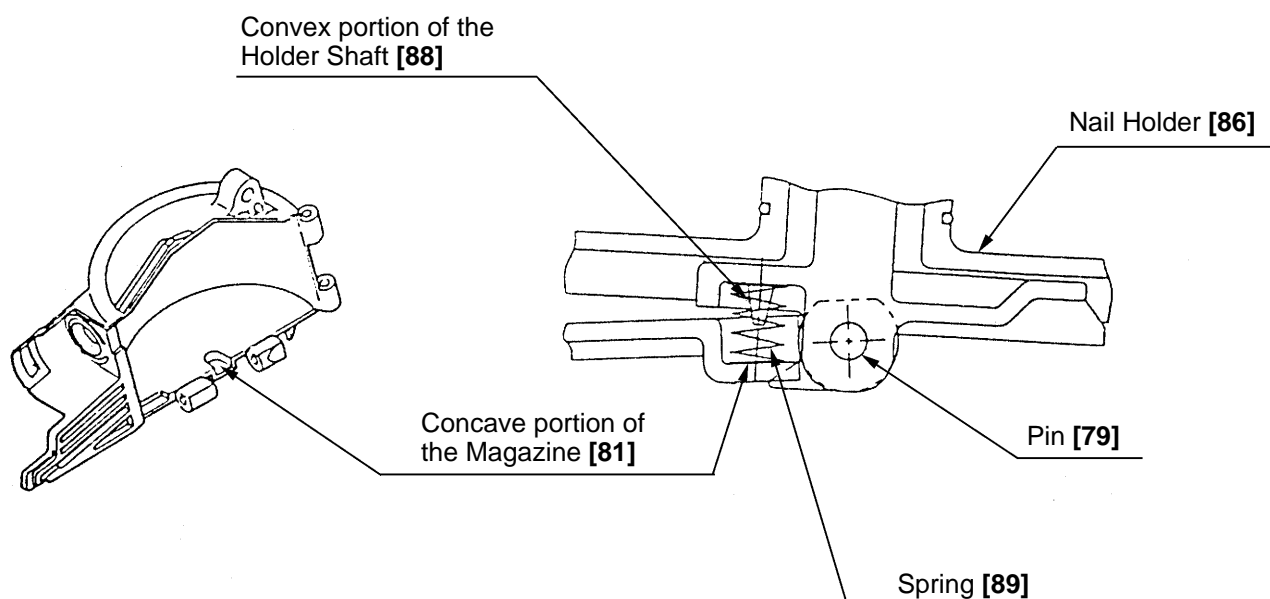

Fig. 12
- Check that the Spring [89] is inserted between the concave portion of the Magazine [81] and the convex portion of the Holder Shaft [88]. Then insert the Pin [79] when mounting the Holder Shaft [88] to the Magazine [81] (Fig. 12).